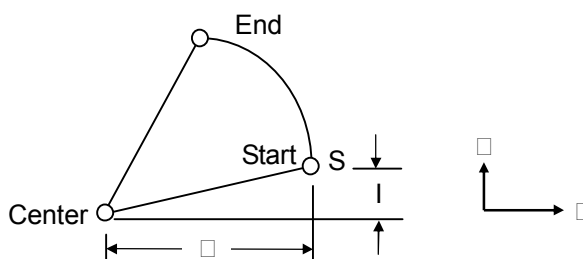

Fig. 3-8 Arc cutting
3. An arc comprises three elements, a start point, and end point and a center (See Fig. 3-8).
- a. The start point (S) is the tool coordinates when the G02 and G03 execute.
- b. The end point (E) is the coordinates of U and W in the program format.
- c. The center (C) is defined by I and K values. They are the coordinate difference between the arc start point and center. This value can be either positive or negative. Definition of the I and K values are same as the increments (U, W). The arc feed-rate is defined by F-value.